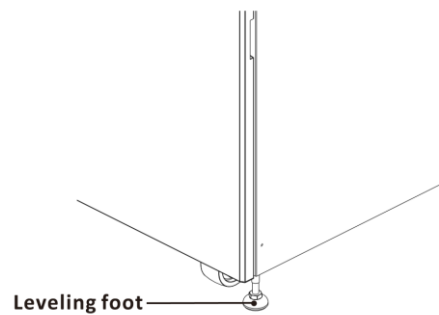

Figure 2-5
- To fix the cabinet in position, simply rotate leveling feet clockwise. Refer to Figure 2-5.